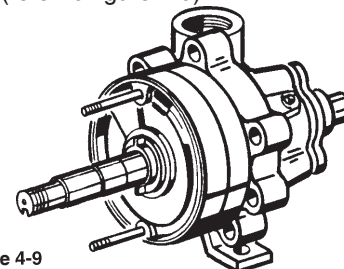

Figure 4-9
- Slide an interstage bushing (#16B) onto the shaft; the smooth wearing face should be installed against the ring (#9B). (refer to figure 4-9)